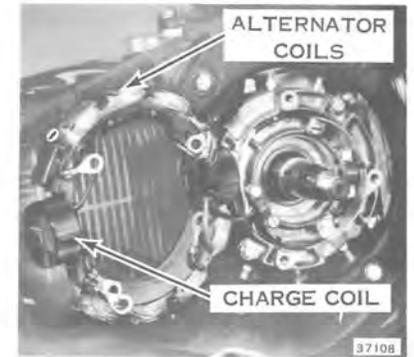

Figure 7-32
- e. Remove flywheel from crankshaft (see Figure 7-31), using flywheel puller (Special Tool #378103). Charge coils, alternator coils and sensor coils are now accessible for servicing (see Figure 7-32).
- g. Remove 4 screws holding alternator and charge coil assembly to stator plate. Assembly can now be removed from stator. See Figure 7-32. Sensor coils can now be removed for replacement if necessary.